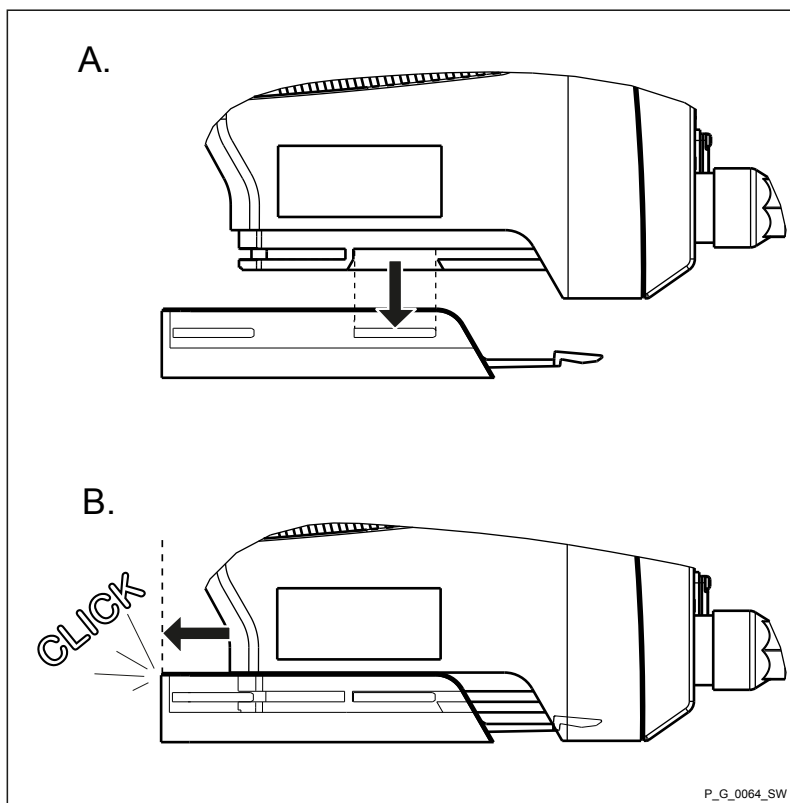

Fig. 9
3. ➤ Lock the foot of the metering pump into the mounting plate – see further information Fig. 9.